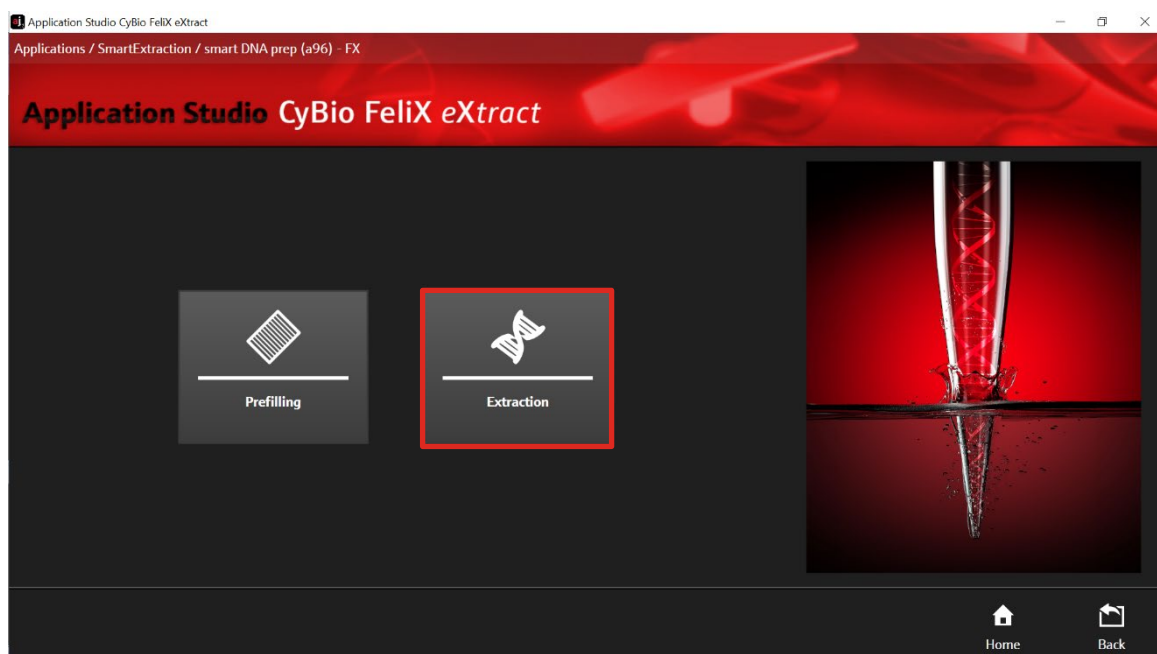

Figure 14: Routine selection: Extraction.
7. Select "Extraction" (→ see Figure 14).